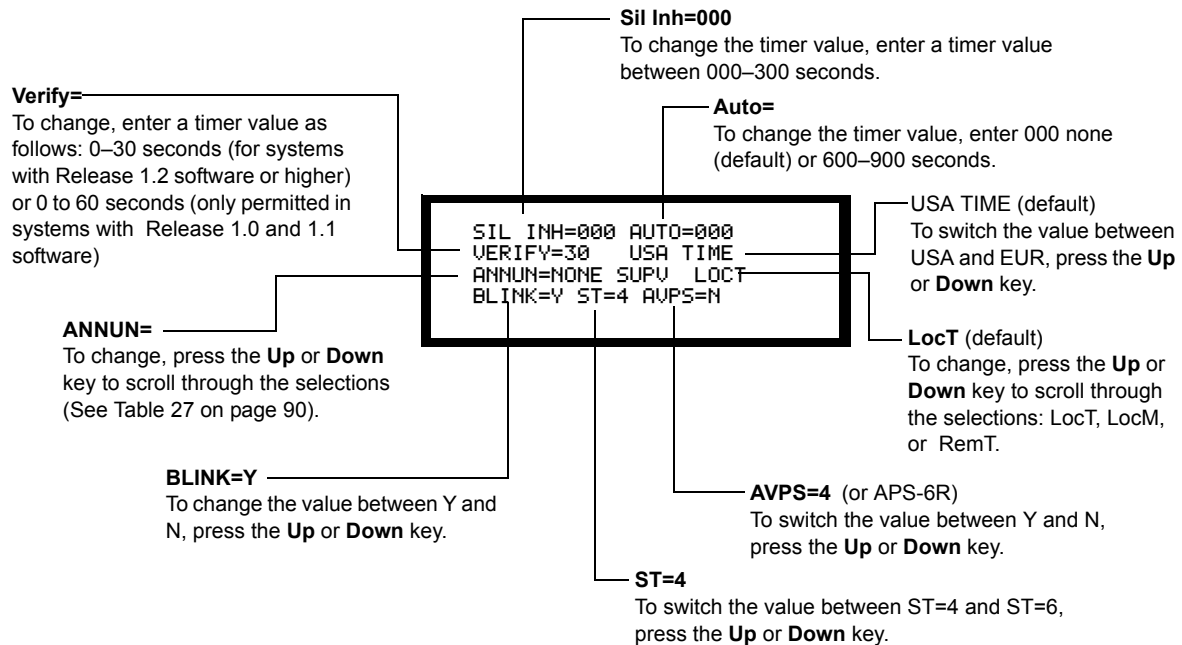

Figure 82 Editing System Functions
1. From the Program Change screen (Figure 53 on page 71), select **7=SYSTEM** to display the System Function screen. Figure 82 shows a System Function screen with default system values.
2. Edit the system function values as shown in Figure 82. For additional information on each value, refer to “Understanding System Functions” on page 89.